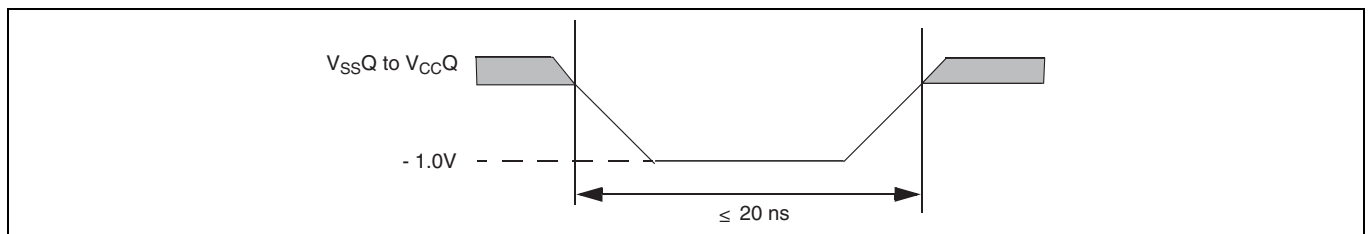
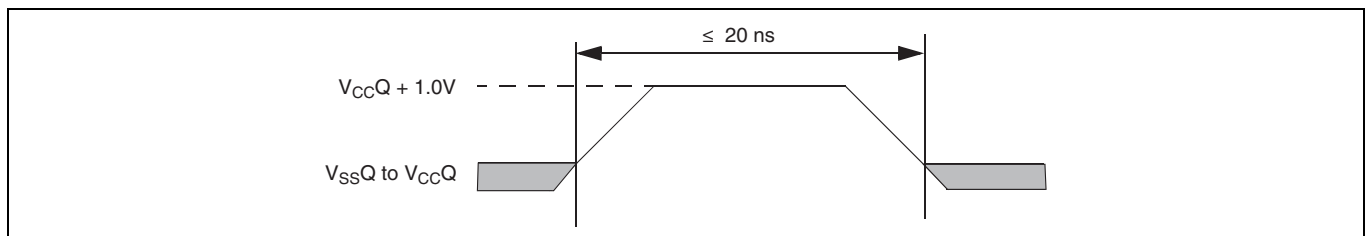

Figure 21 Maximum negative overshoot waveform
Figure 22 Maximum positive overshoot waveform
31. Minimum DC voltage on input or I/O signal is -1.0 V. During voltage transitions, input or I/O signals may undershoot V_{SS} to -1.0V for periods of up to 20 ns. See **Figure 21**. Maximum DC voltage on input or I/O signals is V_{CC} + 1.0 V. During voltage transitions, input or I/O signals may overshoot to V_{CC} + 1.0 V for periods up to 20 ns. See **Figure 22**.